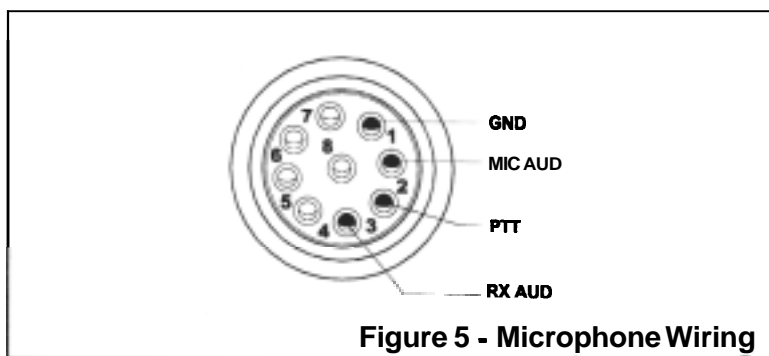

Figure 5 - Microphone Wiring
**Microphone Connector** - The 505DSP's microphone uses an 8-pin DIN connector. The microphone input impedance is approximately 2000 ohms. The microphone amplifier will accommodate low- or medium-impedance dynamic microphones providing 5 to 20 millivolts of output. The microphone supplied with the 505DSP is prewired. Wire your microphone according to Figure 5 if using another brand of microphone.